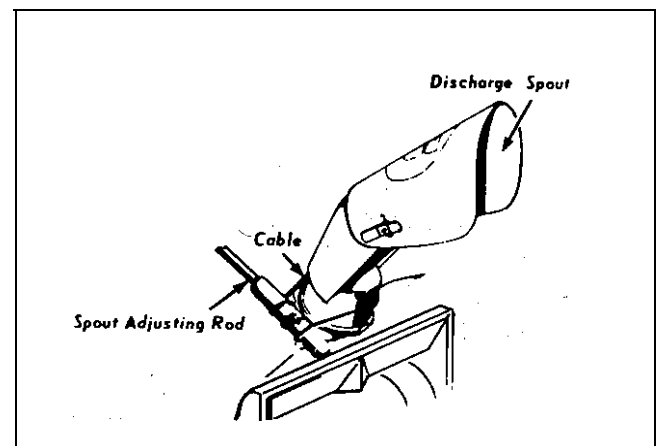
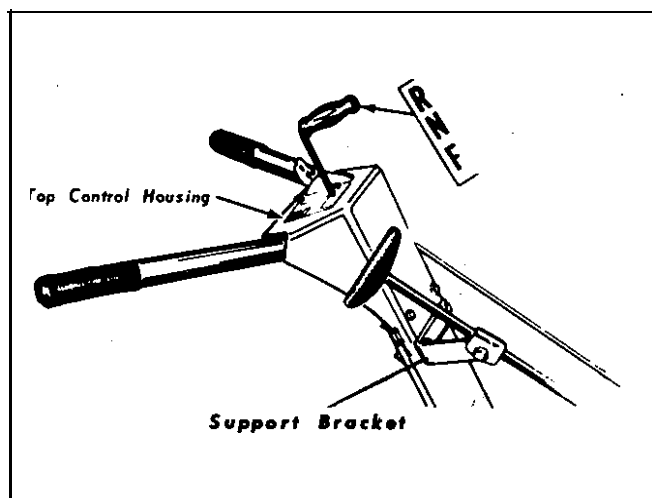

Figure 3.
Figure 4.
5. Attach the spout control cable as shown in Figure 3. Insert the lower end of the spout control rod in the nylon bearing on the blower housing and hold in place with (2) 3/32x 5/8" cotter pins. The spout control rod support bracket is mounted in a reverse position for shipping purposes. Detach and mount as shown in Figure 4. Tighten clamp as necessary to hold spout in desired position.